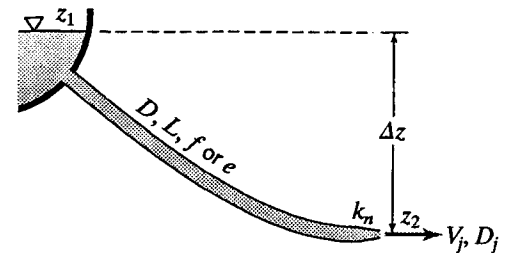

Figure P16.10
16.10 Water is delivered from a reservoir through a 1200-mm-diameter pipe ($f = 0.022$) 3200 m long to a nozzle that emits a 200-mm-diameter jet (Fig. P16.10). The jet impinges on the buckets of an impulse turbine, pitch diameter 2.5 m, which drives a 16-pole generator that produces 50-Hz electricity. The surface of the reservoir providing the water is at an elevation 800 m higher than the nozzle. Assume that the head loss through the nozzle can be expressed as $0.05V_j^2/2g$ where V_j is the jet velocity. Find the following: velocity of flow in the pipe, jet velocity, flow rate, speed of the buckets, value of u/V_1 , net head, force F on the bucket, torque on the wheel, shaft power, power at the base of the nozzle, and overall turbine efficiency. Assume $\beta_2 = 165^\circ$ and $v_2 = v_1$; neglect bearing friction and windage.